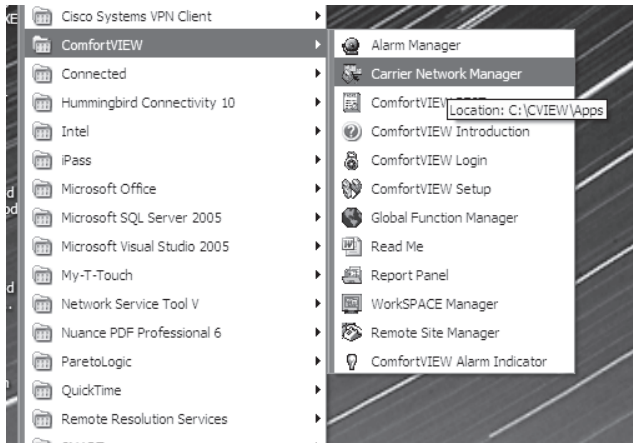

Fig. 8 — Start Carrier Network Manager
5. Select “Carrier Network Manager” (Fig. 8).